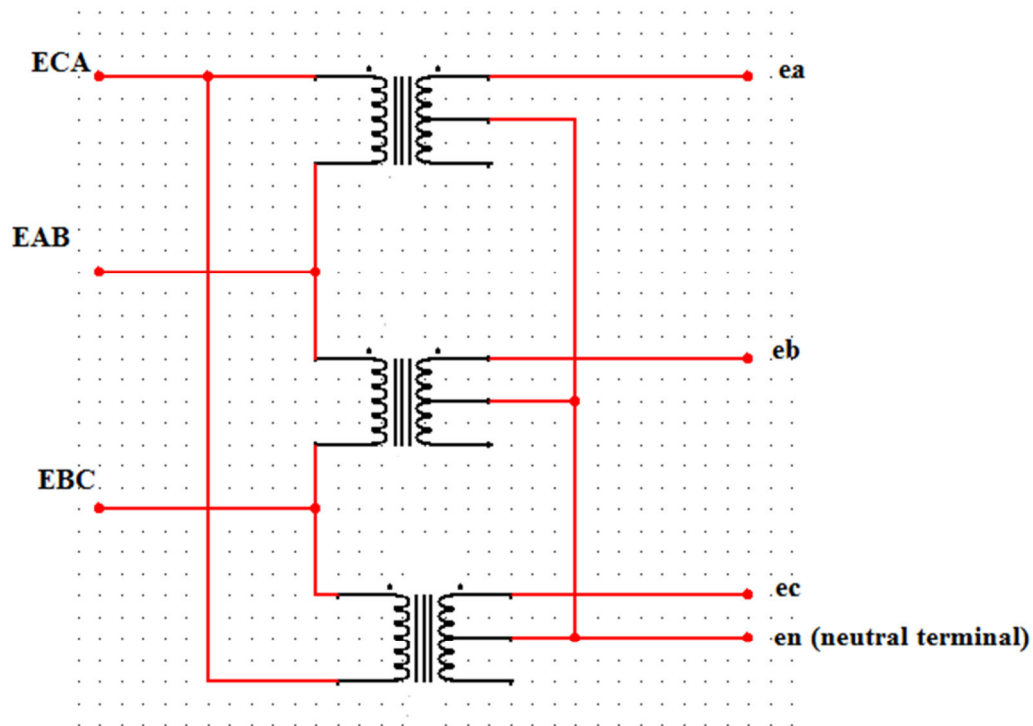

Figure 7.4: Delta to Wye Conversion
- Delta connection is available in the lab. Convert this delta into wye, by using transformer configuration shown in Figure 7.4. Step down transformers will be used in order to work at low voltage levels.